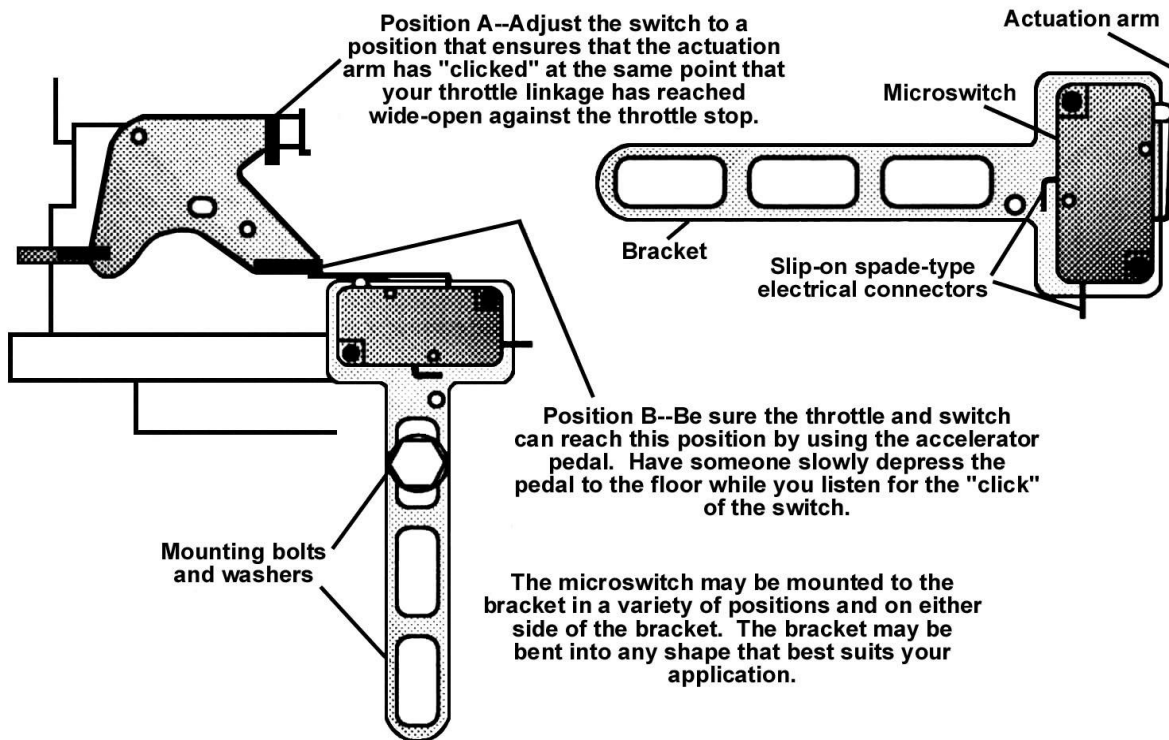

Figure 6 Microswitch Mounting
- B. Adjust the microswitch to trigger at wide-open throttle by adjusting the microswitch's position to ensure the actuation arm of the microswitch "clicks" at the same point your throttle linkage reaches wide-open throttle against the throttle stop (Figure 6, Position A).
- C. Ensure that the throttle and switch can reach the activation position, as shown in Figure 6, Position B, by using the accelerator pedal. Have an assistant slowly press the pedal to the floor while you listen for the "click" of the microswitch.